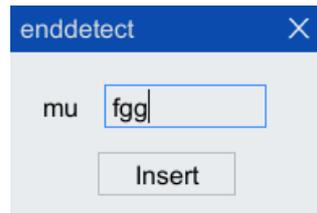

Figure 10-12 The enddetect command parameter configuration interface
Step2. Click "Insert Command>Auxiliary Command>enddetect" to pop up the [enddetect] setting interface. As shown in Figure 10-12.